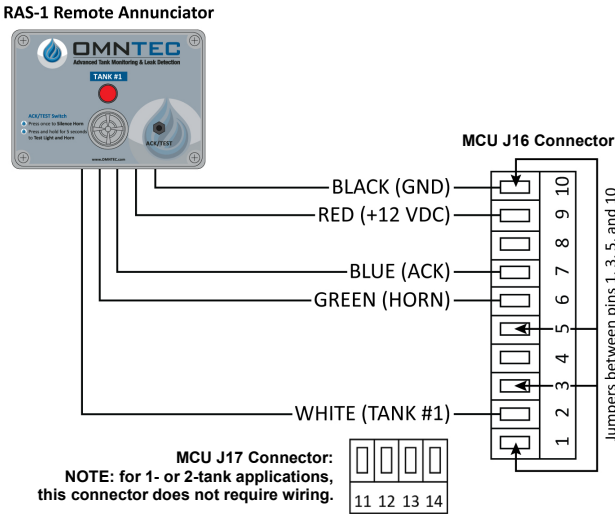

Figure 1.3.2
B. Individual High-Level Alarm Wiring (refer to Figure 1.3.2 and Table 1.3.2)